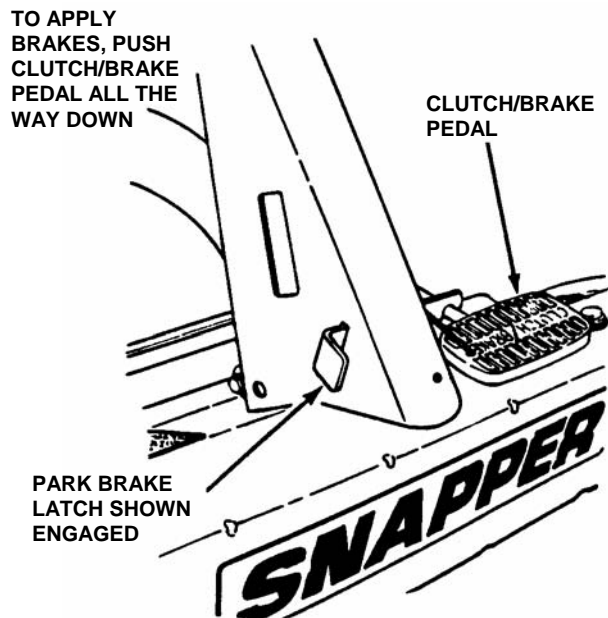

FIGURE 2.14
1. Stop motion of Rear Engine Rider by pushing clutch/brake pedal all the way "DOWN" to apply brake. See Figure 2.14.